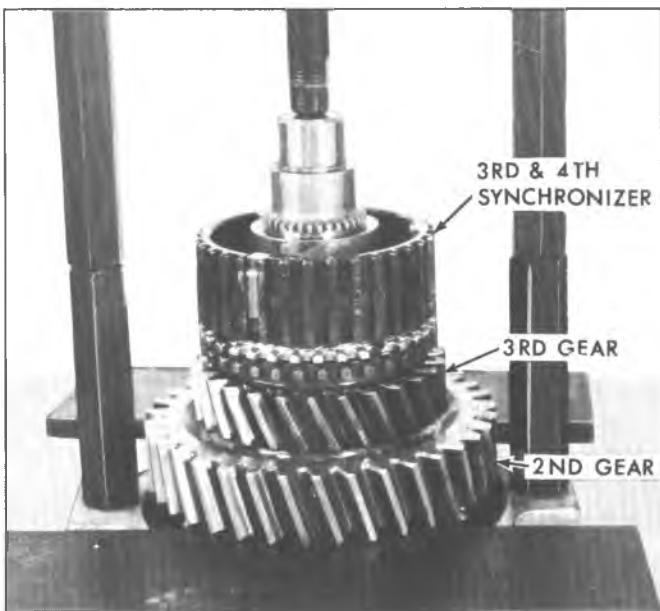

Fig. 15Q-Disassembly of Mainshaft
4. Press behind second speed gear to remove 3rd-4th synchronizer assembly, 3rd speed gear and 2nd speed gear along with 3rd speed gear bushing and thrust washer (fig. 15Q).